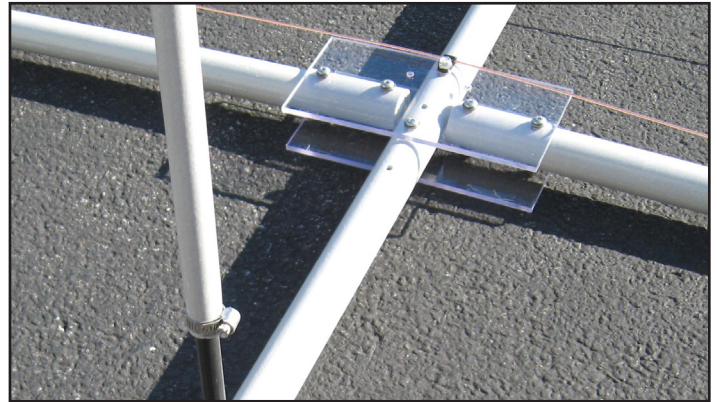

Fig. 100
- Loosen the adjustment screw of the 3/4" SS Hose Clamp and raise the vertical tube between 3" to 6" as shown in Fig. 100. Re-tighten the hose clamp.